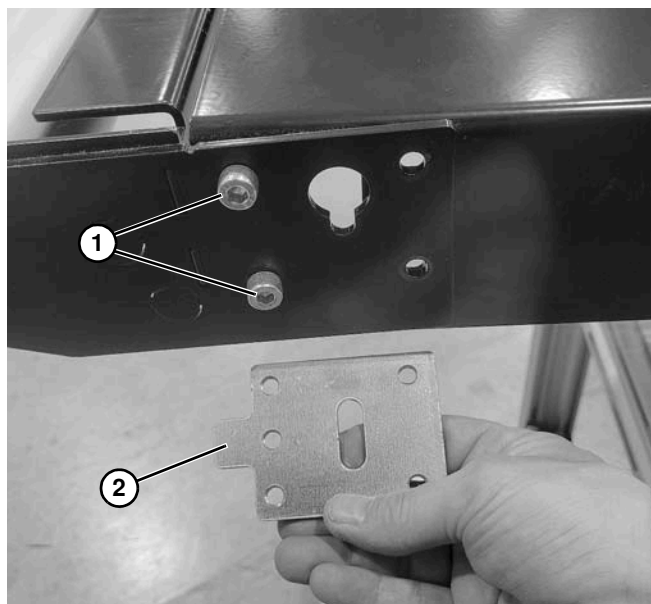

Figure 199
6. Continue to loosen two screws (**Figure 199, item 1**) and remove backing plate (**Figure 199, item 2**) on each side of conveyor.
7. Remove two screws (**Figure 199, item 1**) on each side of conveyor and remove drive spindle assembly. Place onto work surface.